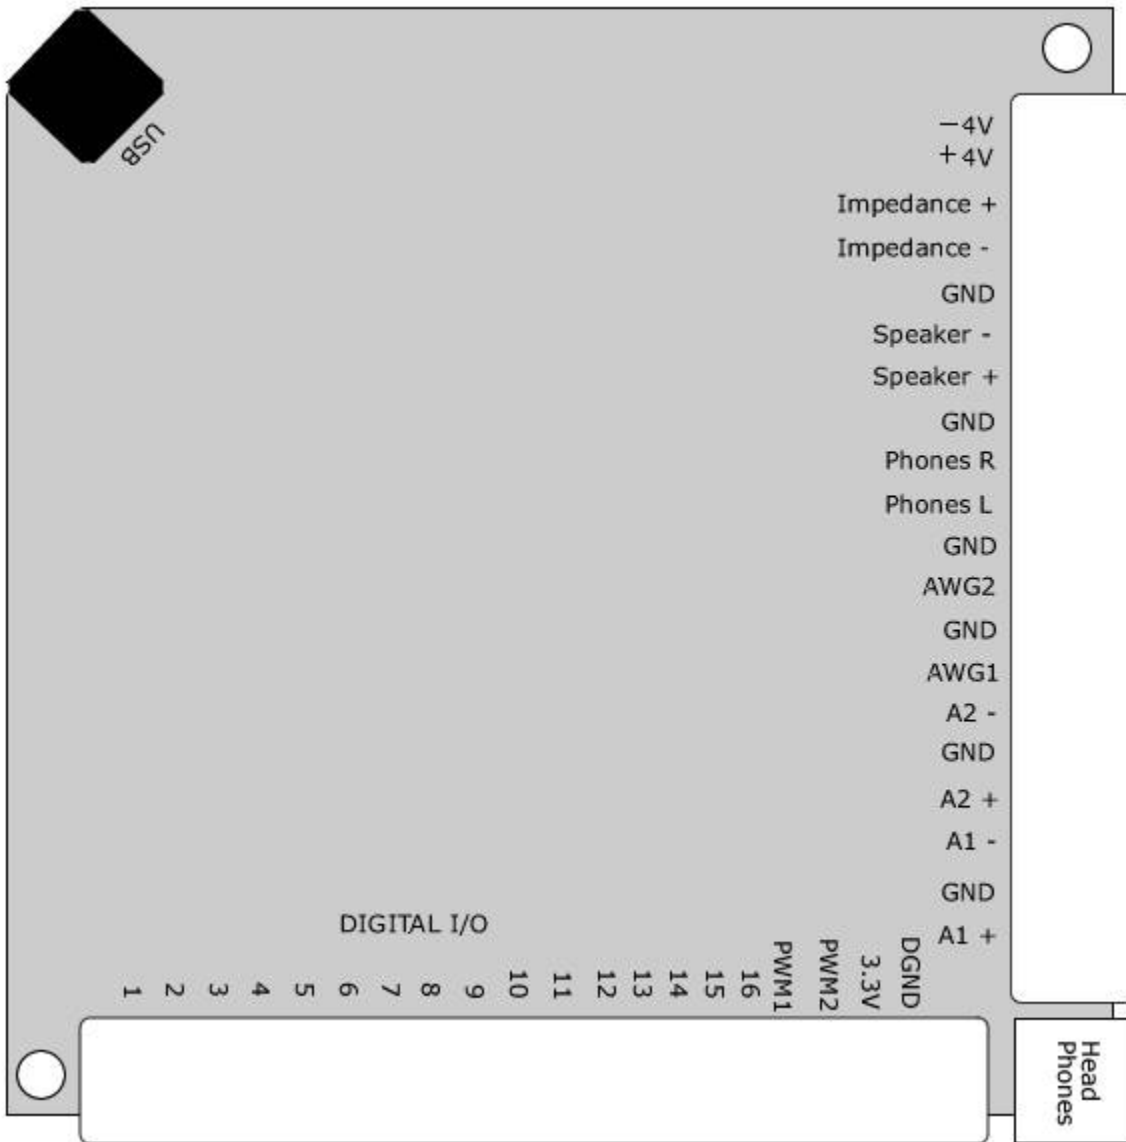

Figure 2. Mobile Studio Pinouts.
3) The connection pins for the Mobile Studio boards are shown in Figure 2, below: